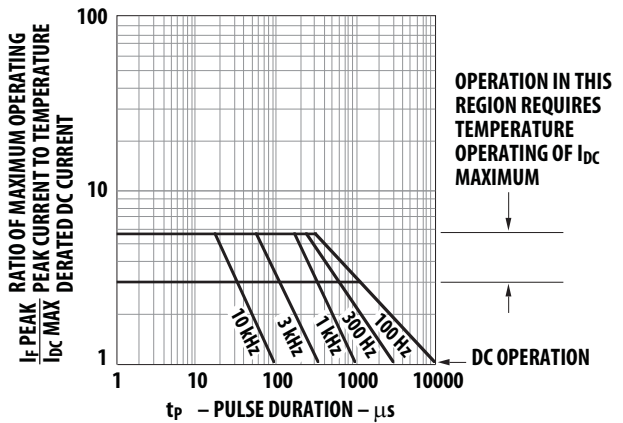

Figure 6. Maximum Tolerable Peak Current vs. Pulse Duration – Yellow.
5. See Figure 6 to establish pulsed conditions.